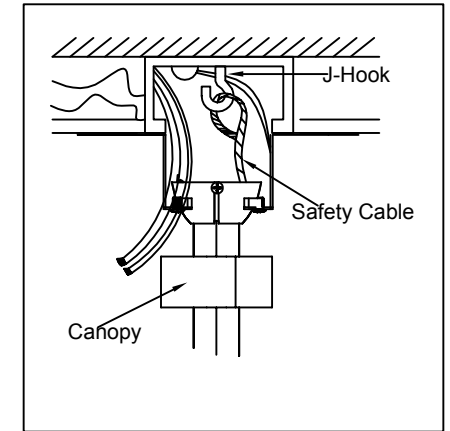

Figure2.2
- Secure mounting bracket and rubber gaskets to metal outlet box. Hang the safety cable onto the J-hook (Figure 2.2).